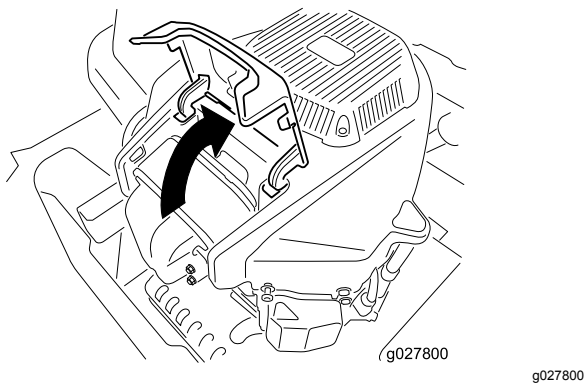

Figure 40
4. Lift the cover and rotate the air-cleaner assembly out of the engine (Figure 40).